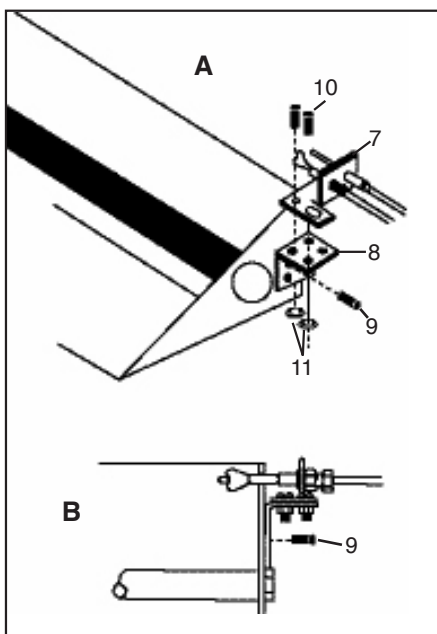

Figure 1
- B. Attach Pilot Bracket (Part #8) to the Burner Pan using one sheet metal screw (Part #9). Install sheet metal screw into top left hole of the bracket (*See Figure 1*)